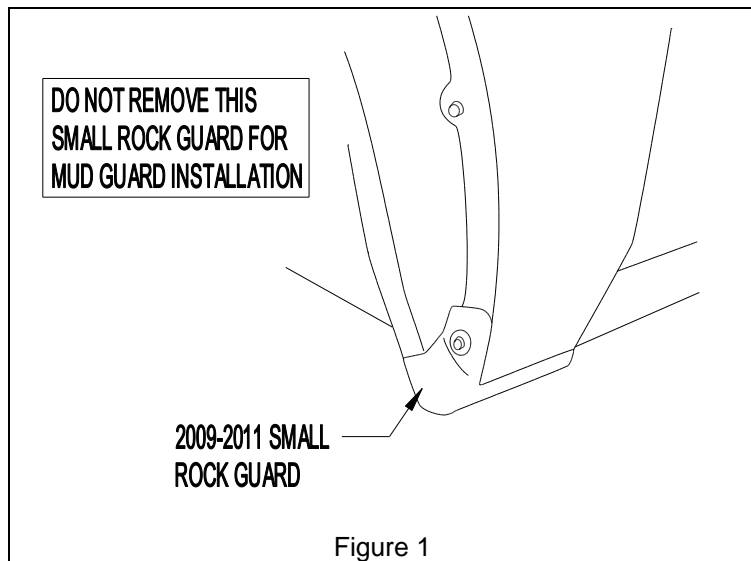
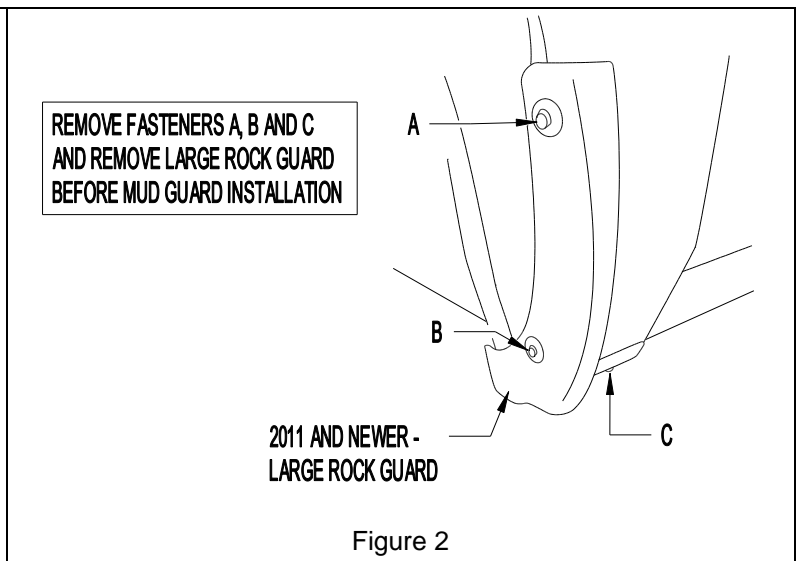
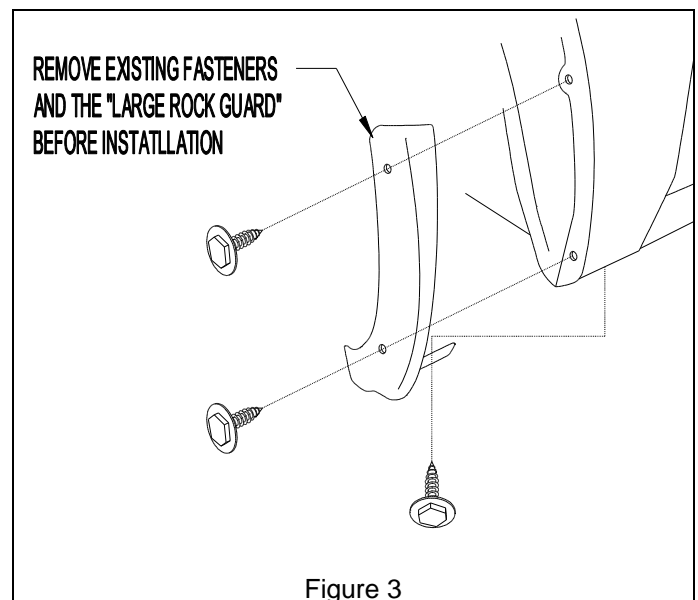

Figure 1
Figure 2
Figure 3
**FIGURE 1:** If you have the "small rock guard" as shown in Figure 1., simply leave the rock guard in place. Next, follow the paint protection film instructions and then the mud guard installation instructions.
**FIGURE 2:** If you have a 2011 or newer Dodge Ram with the "large rock guard" as shown in Figure 2, remove fasteners A, B, and C, and remove the "large rock guard" (Figure 3). After removal of the "large rock guard" reinstall fastener C. Then proceed with the paint protection film instructions followed by the mud guard installation instructions.
1. If you have the "large rock" shown in Figure 2, remove the large rock guard before you install the paint protection film. If you have the small rock guard shown in Figure 1, leave the small rock guard in place and proceed with the paint protection film installation as shown.
**FIGURE 1:** If you have the “small rock guard” as shown in Figure 1., simply leave the rock guard in place. Next, follow the paint protection film instructions and then the mud guard installation instructions.
**FIGURE 2:** If you have a 2011 or newer Dodge Ram with the “large rock guard” as shown in Figure 2, remove fasteners A, B, C, and D, and remove the “large rock guard” (Figure 3). After removal of the “large rock guard” reinstall fastener C. Then proceed with the paint protection film instructions followed by the mud guard installation instructions.
1. If you have the "large rock" shown in Figure 2, remove the large rock guard before you install the paint protection film as shown in Figure 5. If you have the small rock guard shown in Figure 1, leave the small rock guard in place and proceed with the paint protection film installation as shown in Figure 4.
1. Remove the existing fastener from locations A and B as well as locations C and D if you have the 'Large Rock Guard'. Replace C and D after removal of the "large rock guard" if applicable. Once again, use Figure 4 if you have the "rock guard" in Figure 1 or use Figure 5 if you have the "large rock guard" in Figure 2.